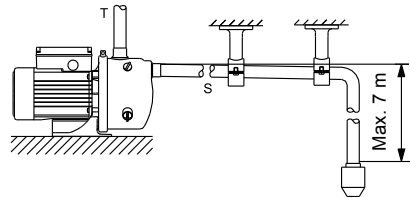

Fig. 2 Pipe connection
Connect the discharge pipe to the pump discharge port (T). See fig. 2. H = maximum 7 metres.